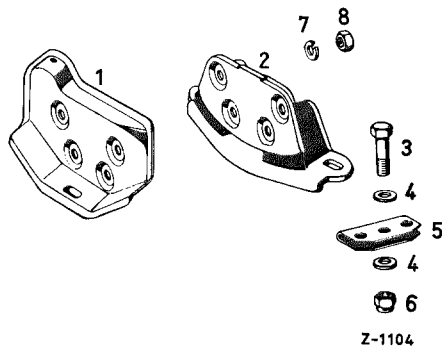

Fig. 24-1/3
- 1 washer (4) between screw and chassis base panel
- 1 washer (5) between chassis base panel and rubber mounting
- 1 washer (4) between rubber mounting and hexagon nut.
On Model 190 SL 3 washers are used on either side, but on this model washer (5) is 10 mm thick instead of 3 mm (see Fig. 24-1/2).
Models 180 b, 180 Db, 190 D, 190 Db have a perforated insert (5) as a standard part (Fig. 24-1/3).